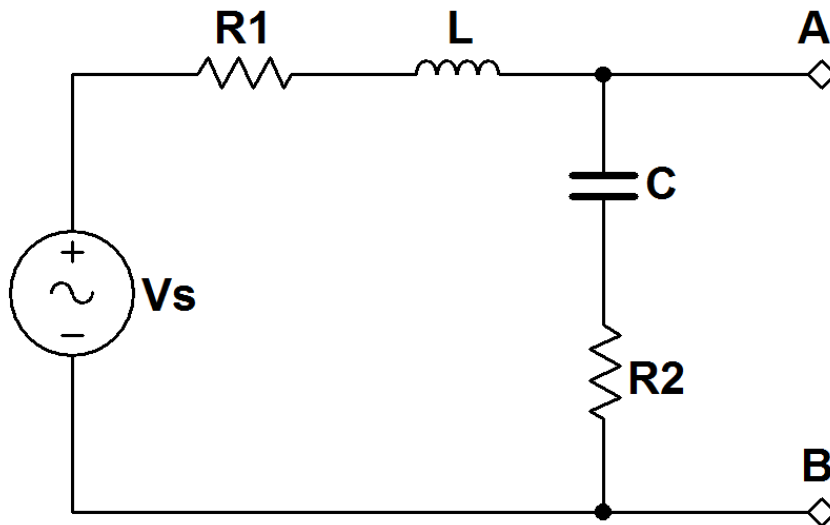

Figure 7.3: Circuit for Problem 7.2
1. Determine the Thévenin equivalent circuit at the terminal pair A - B for the circuit in Figure 7.3 using the open-circuit/short-circuit method. Show the Thévenin impedance as a resistor in series with a single reactive element (capacitor or inductor) and determine the values of all components in the equivalent circuit. The sinusoidal source V_S is 3.0 volts amplitude and 500 Hz frequency.
1. Enter the circuit of Figure 7.3 on the previous page with an `AC_VOLTAGE` source. Set its “AC Analysis Magnitude” to 3 volts and leave the “AC Analysis Phase” at its default zero value. Run a Simulate → Analyses → Single Frequency AC Analysis to measure the open-circuit voltage magnitude and phase. Next, connect a $0.1\ \Omega$ resistor across the terminal pair A - B to approximate a short circuit and then measure the magnitude and phase of the short-circuit current through this small resistor. Calculate the Thévenin voltage and Thévenin impedance from these measurements.
1. Construct the circuit of Figure 7.3 on the preceding page; do *not* include resistor R_1 as this device simply models the finite winding resistance of the physical inductor. Build an op amp voltage follower to strengthen the current drive of AO0 and use the voltage follower output as V_S . Create the sinusoidal voltage with the NI ELVISmx Function Generator. Measure the open-circuit voltage magnitude and phase, taking the source voltage V_S as the phase reference. Connect a $10\ \Omega$ resistor across the terminal pair A - B to approximate a short circuit. Measure the voltage across this resistor and divide by its measured resistance to obtain the short-circuit current magnitude